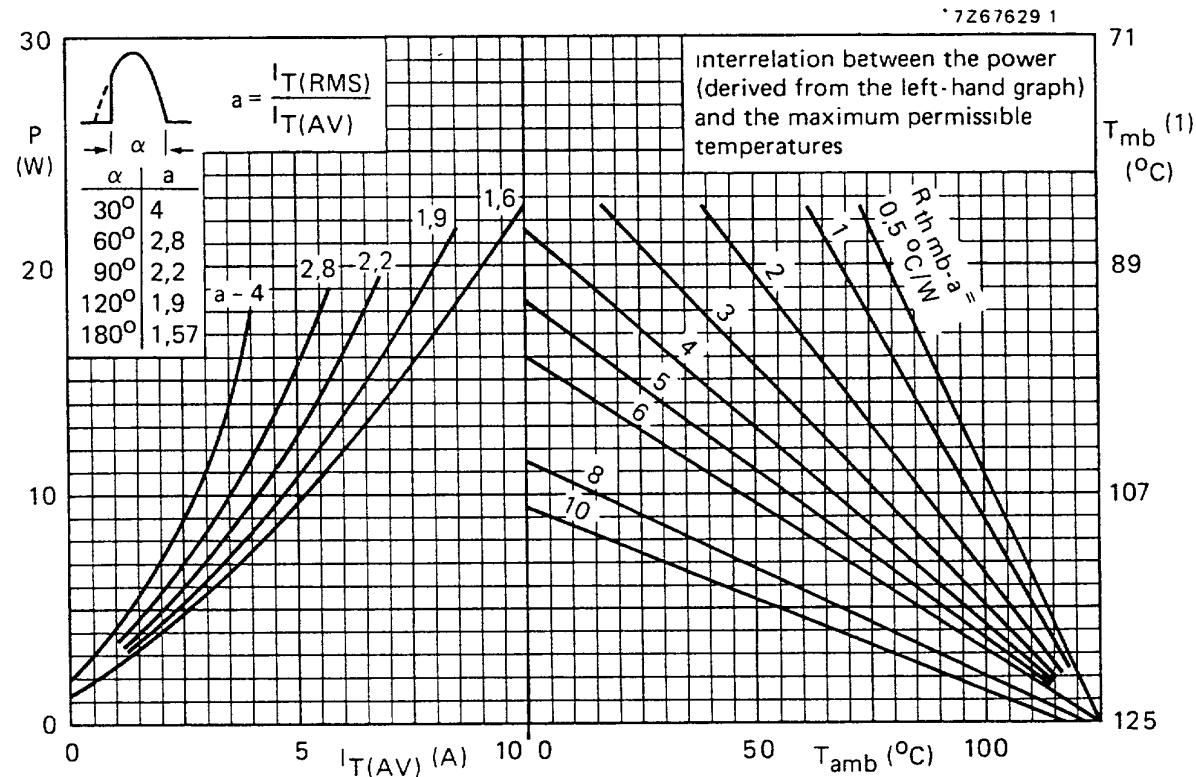

Fig. 3 (1) T_{mb} -scale is for comparison purposes only and is correct only for $R_{th\,mb-a} \leq 6$ $^{\circ}$ C/W.
* To ensure thermal stability: $R_{th\ j-a} < 4$ °C/W (d.c. blocking) or < 8 °C/W (a.c.). For smaller heatsinks T_j max should be derated. For a.c. see Fig. 3.